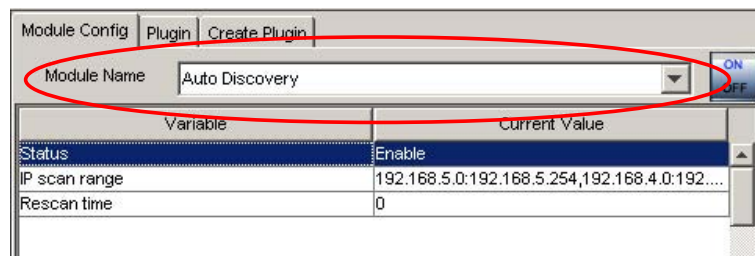

Figure 4-48: Auto Discovery Option
-  **Step 1.** Open the **Module Configuration** page. Use the **Module Name** pull-down menu to select Auto Discovery option. (See *Figure 4-48*)